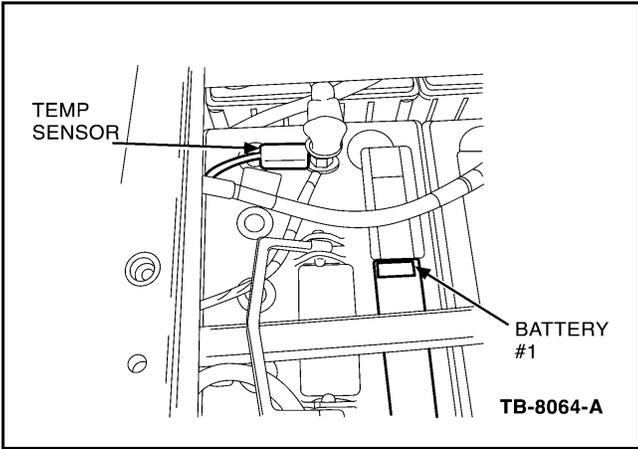

Figure 23 - Article 04-24-9
5. Connect the new charger battery temperature sensor to the negative side of battery number one (Figure 23).